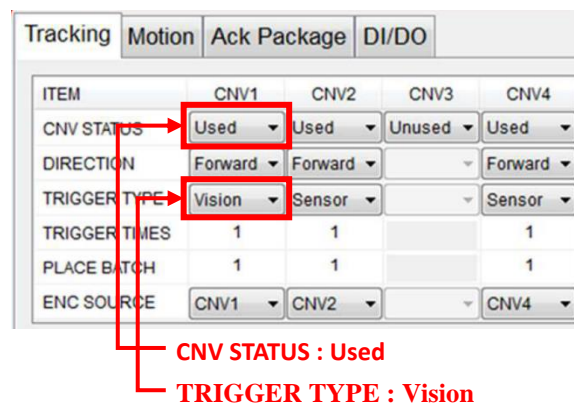

Figure 6-12 Conveyor tracking function basic setting
2. As shown in Figure 6-12, taking CNV1 as an example, you need to connect the capture signal output line to "IDI1" and set the "CNV Status" and "Trigger Type" options of CNV1 to "Used" and "Vision" respectively.